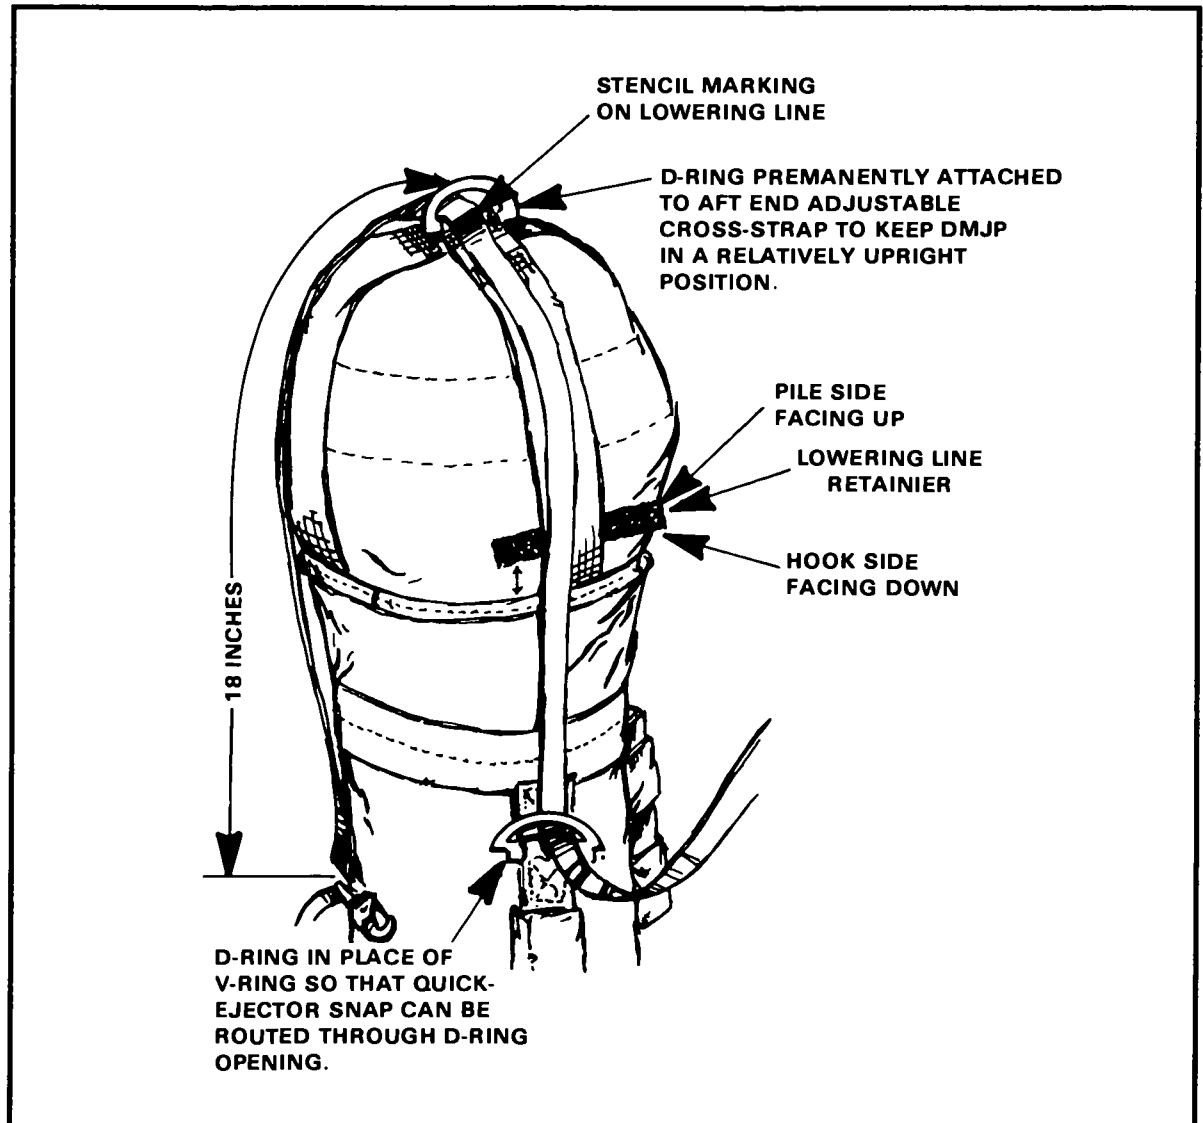

Figure 6-48. DMJP modified with D-ring.
a. To secure the 15-foot HPT lowering line, grasp the quick-ejector snap of lowering line. Route (from bottom to top) it through the D-ring openings at the pack body and aft end locations. Position the 18-inch strata blue marking on the HPT lowering line even with the D-ring on top of the DMJP (Figure 6-48).
through the link opening and close. The snap opening must face away from the pack (Figure 6-48).